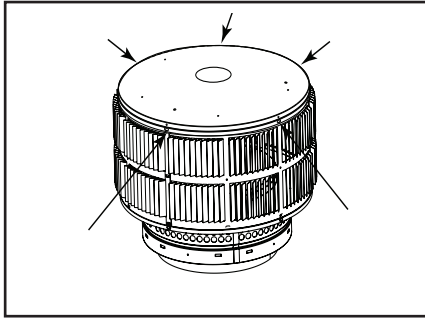

Figure 1
1. Remove the five screws from the top termination dish of the TR cap and lay aside the screws. Discard the top dish just removed. See Figure 1.